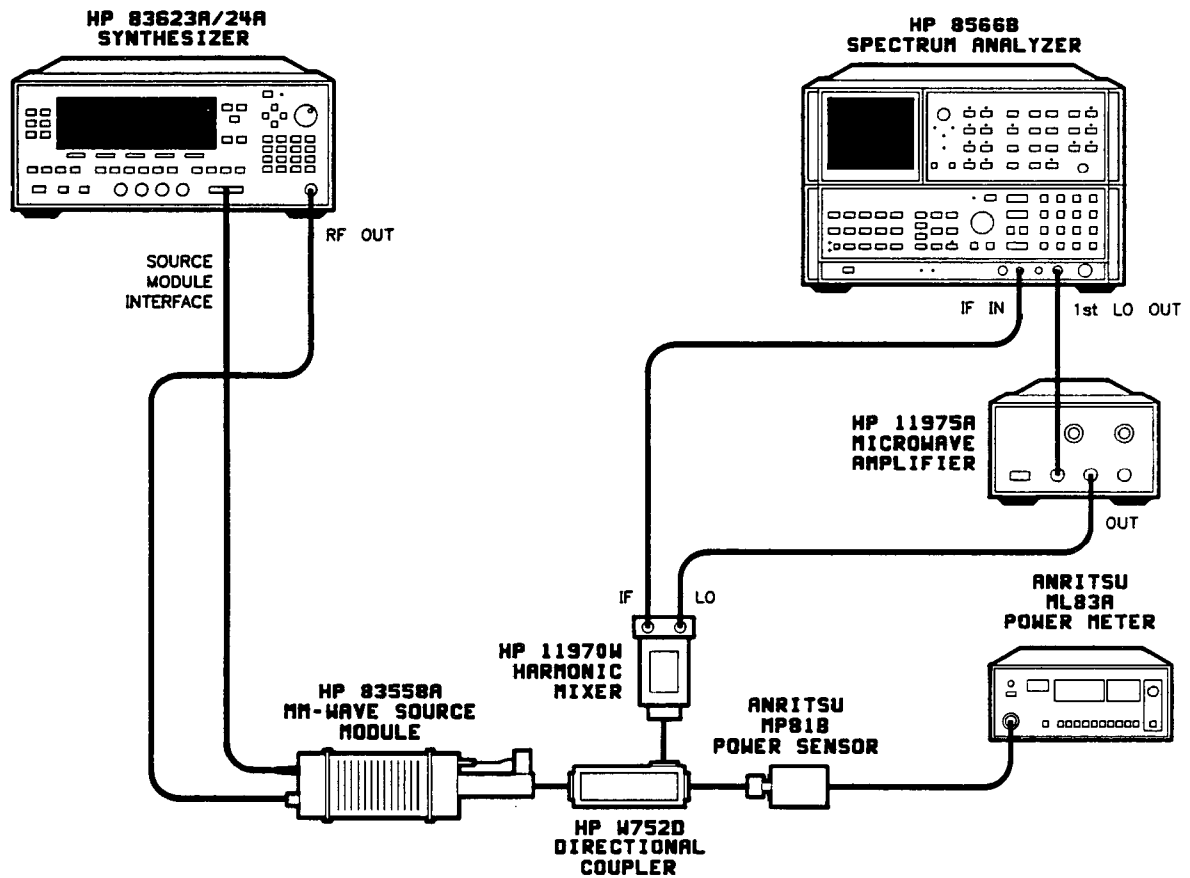

Figure 3-8. Multiplier 4/3 Harmonic Signals Typical Test Setup
The RF output signal from the source module is tuned from 75.0 to 82.5 GHz and the 4/3 harmonics are displayed on a spectrum analyzer to verify that any harmonic spurious signals are at or below their specified levels. The test configuration in Figure 3-8 uses an external harmonic mixer to extend the frequency range of the spectrum analyzer. When this technique is used, the response is not pre-selected and multiple signals are displayed. Each response is examined not only for power level, but whether or not the signal is truly in band by using the spectrum analyzer's signal identification function.
1. Connect the equipment as shown in Figure 3-8. Turn on all system components. On HP 8360 series sources, press [PRESET].